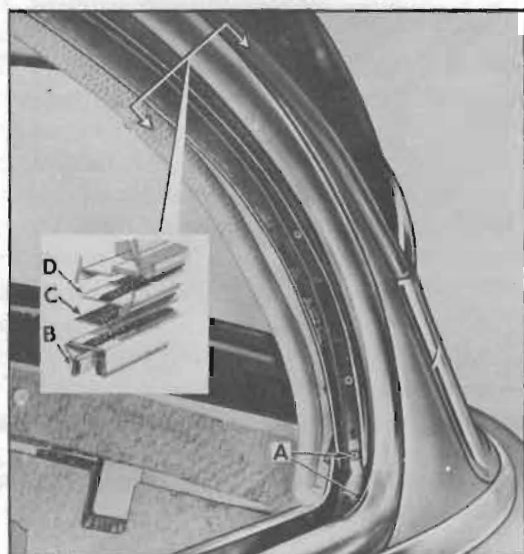

Figure 13-41—Rear Quarter Window Sash Channel and Reveal Molding
1. Lower the rear quarter window and remove attaching screws from groove of sash channel "B" and screws "A" attaching lower end of sash channel and end of quarter window guide assembly to the body. See figure 13-41.